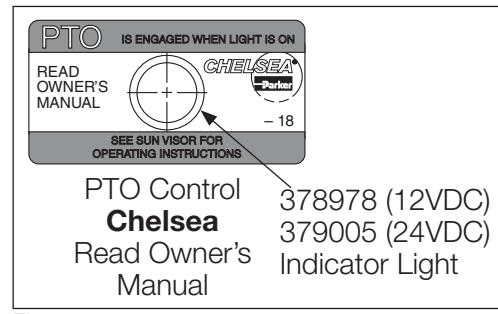

Figure 21
- Install the control plate, stick on decal and indicator light on the dash using the hardware supplied in the installation kit (**Fig. 21**).